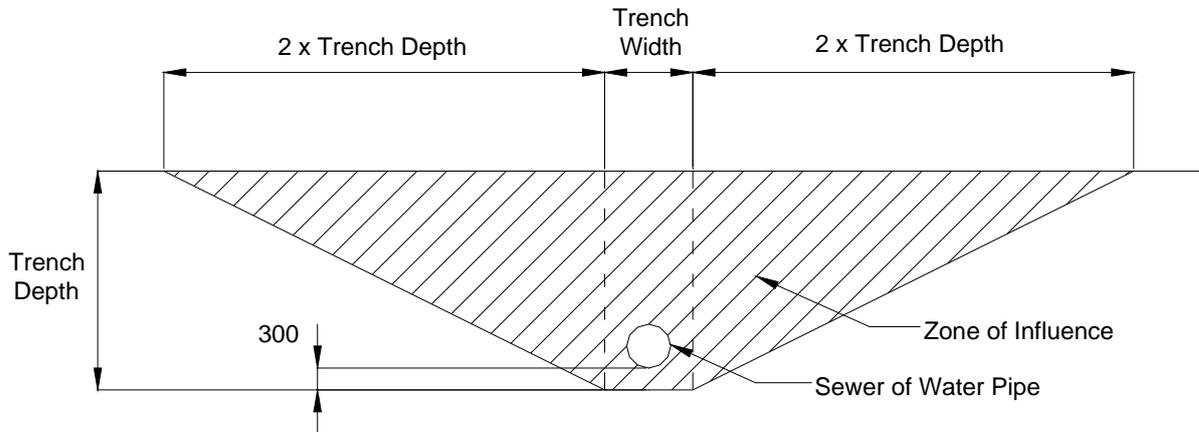

Figure 3 Zone of Influence for Sand, Filled Ground and Loam
- d) The zone is calculated using the depth of the trench and half the trench width. This calculation varies due to the type of soil present. Figures 3 and 4 indicate the Zone of Influence for clay soils and for sand, filled ground and loam respectively.